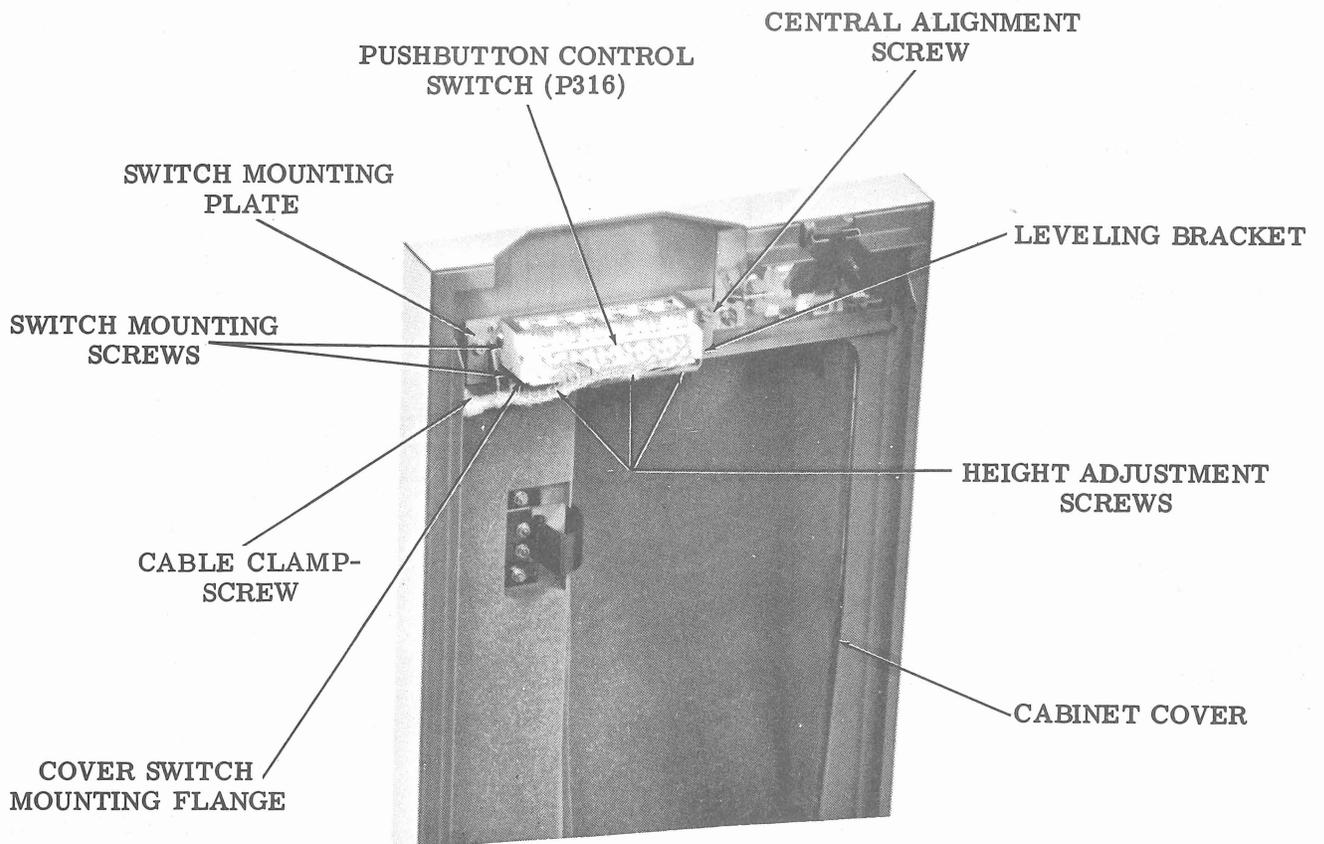

Figure 21 - Pushbutton Switch Removal
3.11 Remove the tape module electrical service unit from the tape module cabinet as follows (Figures 21 and 23).